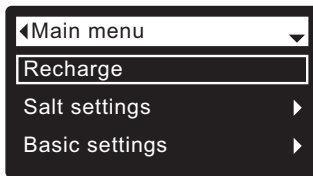

FIG. 37
During normal operation (status screens rolling), press the softener’s SELECT (O) button to display the Main menu (See Figure 37). This menu and its subsidiary screens are used to control these operations: